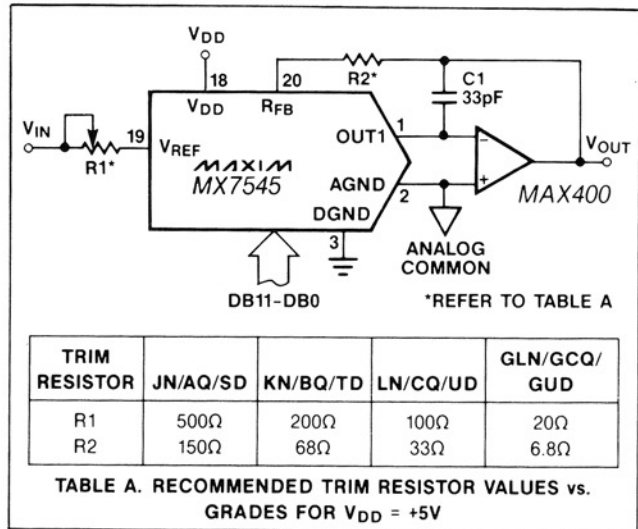
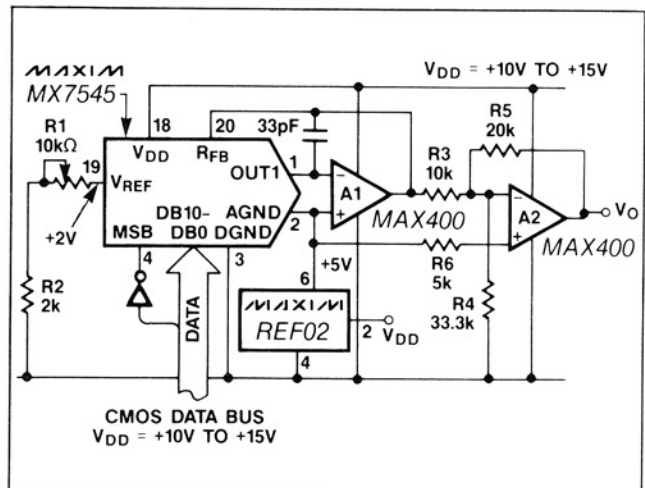

Figure 3. Unipolar Binary Operation
Figure 8. Single Supply "Bipolar" 2's Complement D/A Converter
**Note 1:** Using internal feedback resistor, RFB. DAC register loaded with 1111 1111 1111. Gain error is adjustable using the circuits of Figures 3, 4 and 8.
Either current output can be converted into a voltage externally by adding an output amplifier (Figure 3). The  $V_{REF}$  input accepts a wide range of signals including fixed and time varying voltage or current inputs. If a current source is used for the reference input, then a low temperature coefficient external resistor should be used for  $R_{FB}$  to minimize gain variation with temperature.
The most common configuration for the MX7545 is shown in Figure 3. This circuit is used for unipolar binary operation or two-quadrant multiplication. The
Table 1. Unipolar Binary Code Table for Circuit of Figure 3
In many applications the gain adjustment will not be necessary, especially when using the "G" suffix parts with guaranteed maximum  $\pm 1$  LSB gain errors. In those cases and also when the gain is trimmed at the reference source, resistors R1 and R2 in Figure 3 can be omitted. However, if the trims are desired and the DAC is operated over a wide temperature range, then low tempco ( $<300\text{ppm}/^\circ\text{C}$ ) resistors should be used for R1 and R2.
The unipolar and bipolar circuits in Figures 3 and 4 can all be converted to voltage output mode. For example, Figure 8 shows the 2's complement bipolar circuit of Figure 4 modified to work with an output range of +2V to +8V around an offset ground potential of +5V from a single supply,  $V_{DD}$ , of +10V to 15V. The REF02 reference is used to bias the AGND at +5V. The R1 and R2 resistors form a voltage divider together